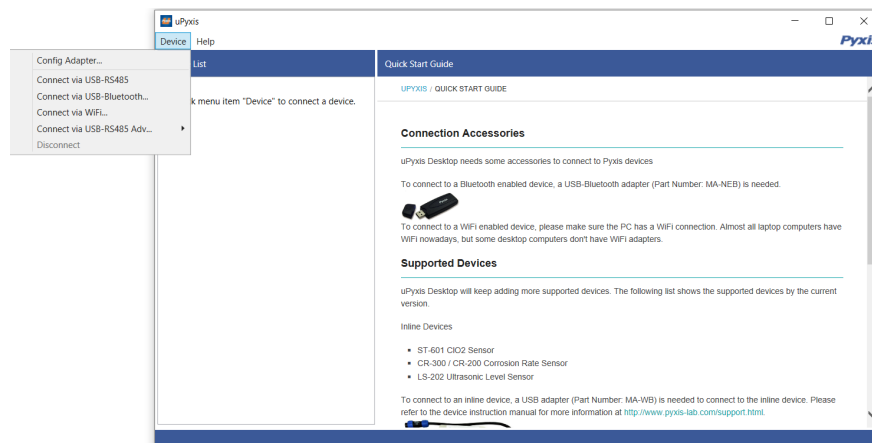

Figure 20.
4. On uPyxis® Desktop App, click Device → Connect via USB-Bluetooth (Figure 20).
5. If the connection is successful, the LS-202 and its Serial Number (SN) will be displayed in the left pane of the uPyxis® window.